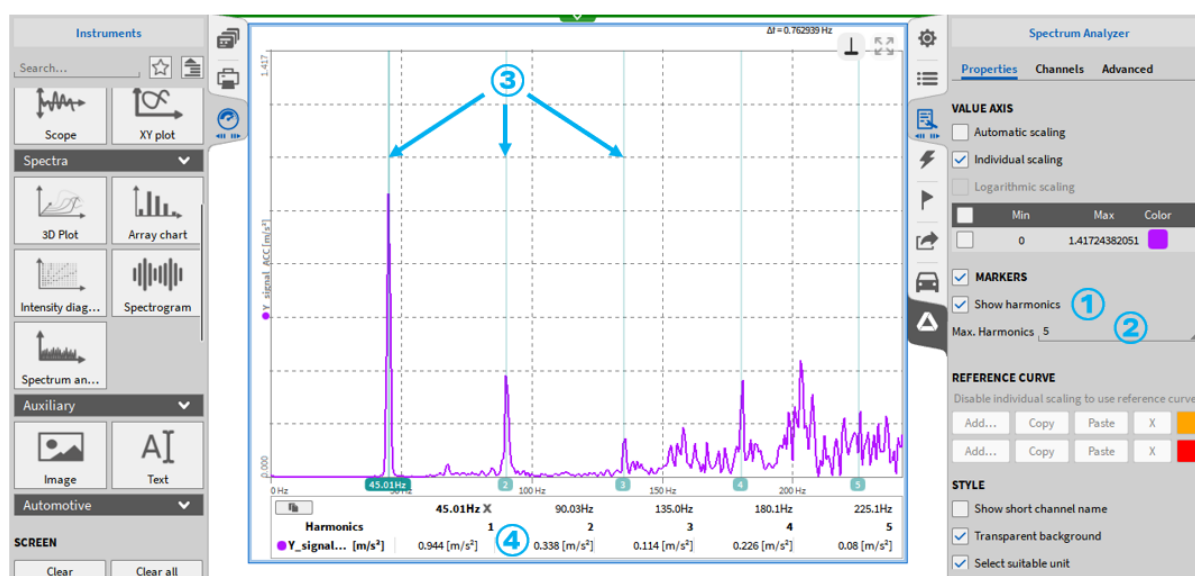

Fig. 8.64: Usage of Harmonics Markers
Harmonics Markers can be displayed by checking *Show Harmonics* (see ① in Fig. 8.64). The number of harmonics can be set from 1 to 10 (see ② in Fig. 8.64). Harmonics are marked with cursors (see ③ in Fig. 8.64) and the harmonics amplitude is displayed at the instrument's bottom (see ④ in Fig. 8.64).